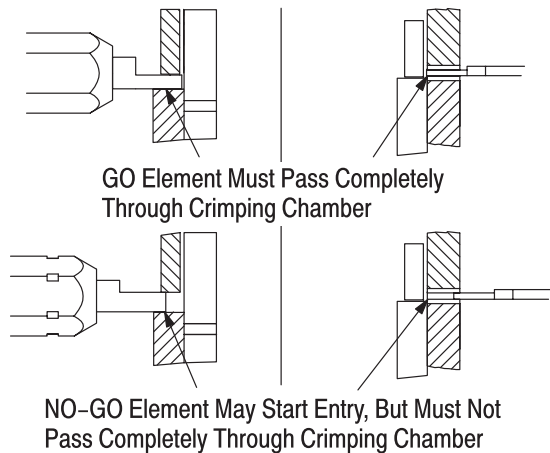

Figure 5
This inspection requires the use of plug gages conforming to the dimensions provided in Figure 5. Tyco Electronics does not manufacture or market these gages. To gage the crimping chamber, proceed as follows:
The GO element must pass completely through the crimping chamber. See Figure 5.
- 4. Align the NO-GO element and try to insert it straight into the same crimping chamber. The NO-GO element may start entry, but must not pass completely through the crimping chamber. See Figure 5.